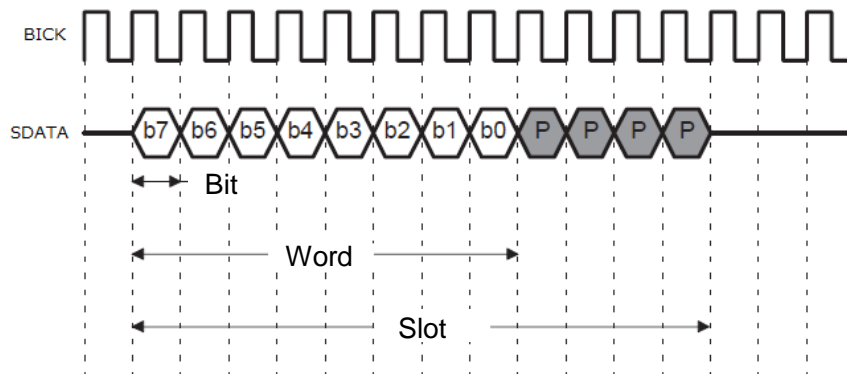

Figure 25. Bit and Word Slot Definition
**Word:** It is a group of multiple bits that composes transmitting data between external devices and the AK4601. Figure 25 shows an example of a word consists of eight bits.
**Slot:** It is composed of a word and adequate additional bits for interfacing to an external device. In Figure 25, the audio data is an 8-bit valid data and a 12-bit slot needs additional four zeros to satisfy an interface protocol of the external device.
If the word length is shorter than the slot length, the data alignment of the word will be the beginning of the slot (MSB justified) or end of the slot (LSB justified). Figure 25 shows an example of MSB justified format. The slot length must be longer than the word length.